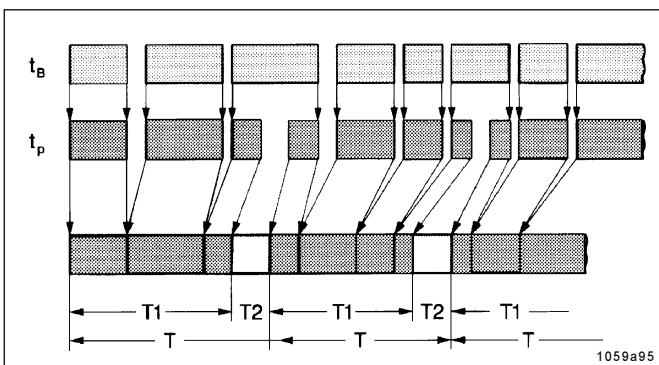
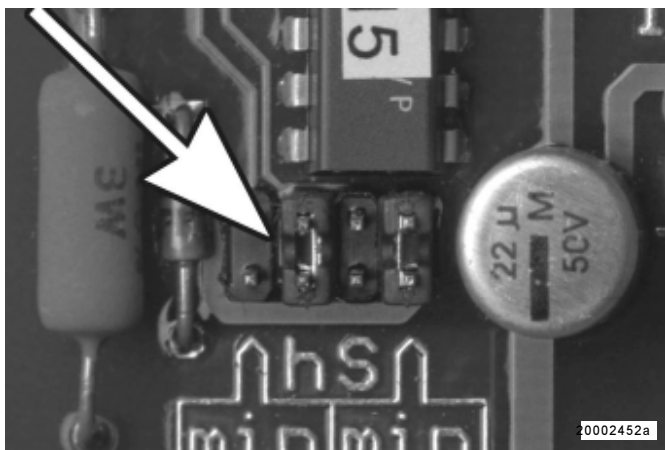

Fig. 23 -Time sequence diagram
Fig. 26 - Preselection of the time range
- The printed circuit board automatically controls the sequence of the pause and operating times of the model 203 central lubrication pump as a function of the vehicle or machine working hours t_B , see fig.23.
- When the machine contact or the driving switch is switched off, the pause times which have already elapsed are stored and added up (refer to T1, Fig.23) until the time which has been set on the blue rotary switch (Fig.26) is reached.
Note : To reset a jumper (see fig 26 or 28), remove the printed circuit board .